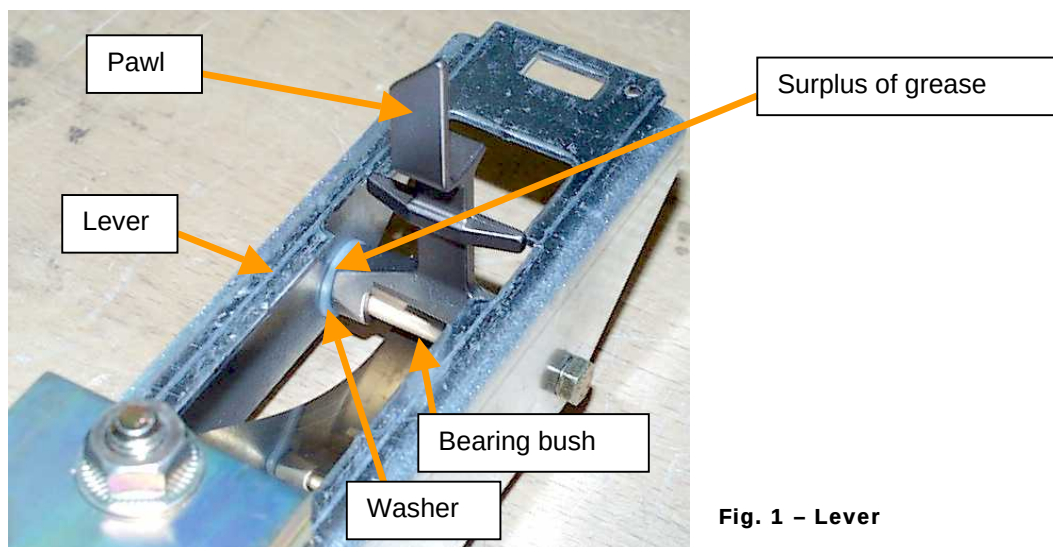

Fig. 1 – Lever
4. Check if all three pawls move freely. (see figure 1)
See figures 1 and 2.